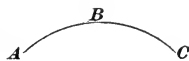

FIG. 2.
**19.** A **curved line** changes its direction at every point. Curved lines are designated by three or more letters, as the curved line *ABC*, Fig. 2.